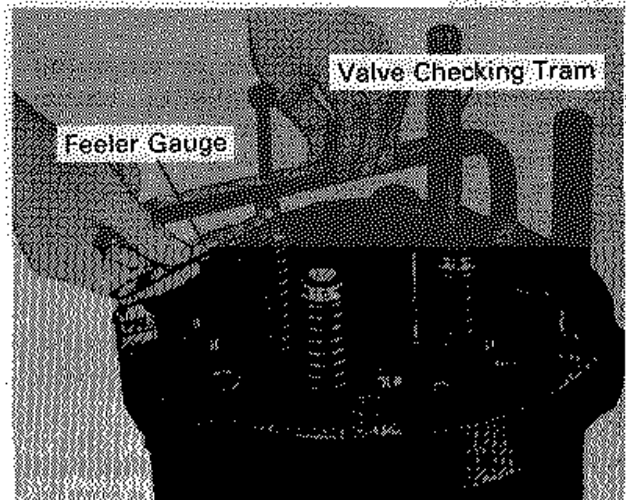

Fig.2-21-Checking Height Of Valve Stems
2. Apply tram firmly on cylinder head, Fig. 2-21.